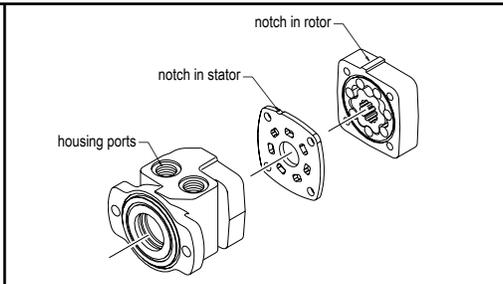

FIGURE 2
- F)** Turn shaft (21) over so that output end of shaft faces down. Install cooling plug (20) down into shaft (21) making sure large O.D. end of cooling plug (20) faces up. Lower drive link (12) into shaft making sure that timing mark end of drive link faces up and that the timing mark on the end of the drive link (12) is aligned with one of the through holes in the shaft (21). When splines contact each other, slowly rotate drive link (12) counterclockwise for a “200” series, or clockwise for a “201” series motor until drive link splines engage with those on shaft (21).
- G)** Turn housing (19) over so that pilot of housing faces down and secure housing (19) in vise. Without disturbing seal carrier assembly (9) or drive link (12), carefully lower shaft assembly into housing. To seat seal carrier (9) against wire ring (2), gently tap drive link (12) down until end of shaft (21) is nearly flush with rear surface of housing.
- H)** Place a body seal (8) in the groove in the rear surface of the housing (19). Using alignment marks as a guide, place wear plate (13) on housing making sure that notch in wear plate (13) is aligned with port side of housing (20) (See Figure 2).
- I)** Place a body seal (8) in the groove in the face of the rotor assembly (14). Lower rotor (14) onto drive link (12) making sure that timing mark on drive link is aligned with a peak on the rotor (14) (See Figure 3). Once splines are engaged, rotate rotor (14) so that notch on rotor is aligned with notch on wear plate (13) and ports on housing (19) (See Figure 2). Insert drive link pin (15) into end of drive link (12) making sure that concave end faces up.
- J)** Place remaining body seal (8) in groove in endcover (16). Using alignment marks as a guide, place endcover (16) onto motor making sure that end of drive link pin (15) is in hole in center of endcover. Insert four assembly bolts (18) into bolt holes and pre-torque to 13,6 Nm [10 ft. lb.]. Using a crisscross pattern, torque bolts to 67,8 Nm [50 ft. lb.].
- K)** Remove motor from vise and place on work surface with shaft (21) facing up. Making sure that lip on dust seal (1) faces up, place dust seal (1) over shaft (21). Using a sleeve and hammer, carefully drive dust seal (1) into place.